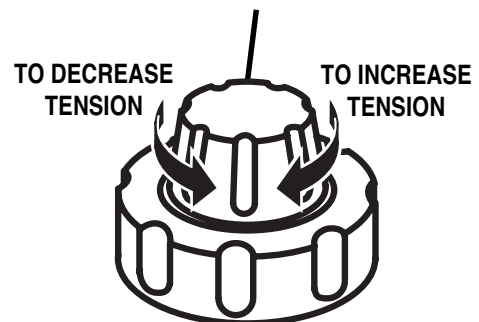

Fig. 17
- Tension adjusting knob is on the top of the saw. See Figure 17. Rotate the quick release knob (outer, larger knob) 1/4 turn to the left or counterclockwise to release blade tension.